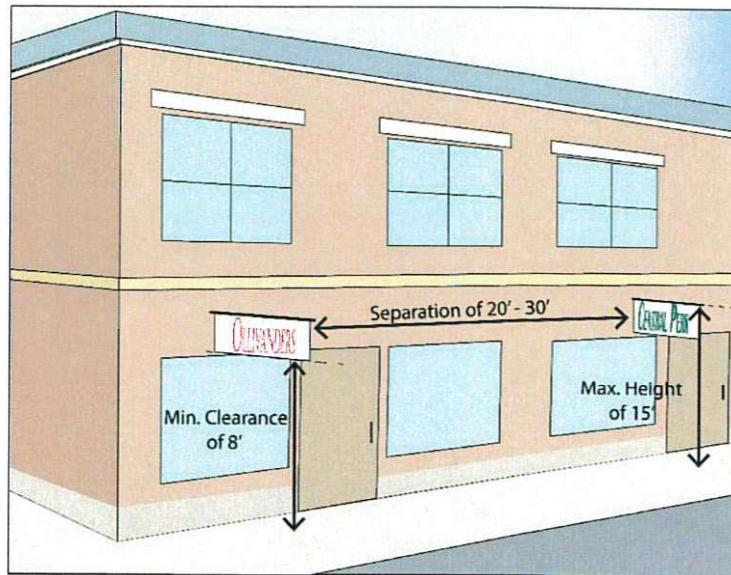

Figure 15
3. There must be a minimum horizontal distance of 20 feet between signs suspended perpendicular to a building face (*See Figure 15*).